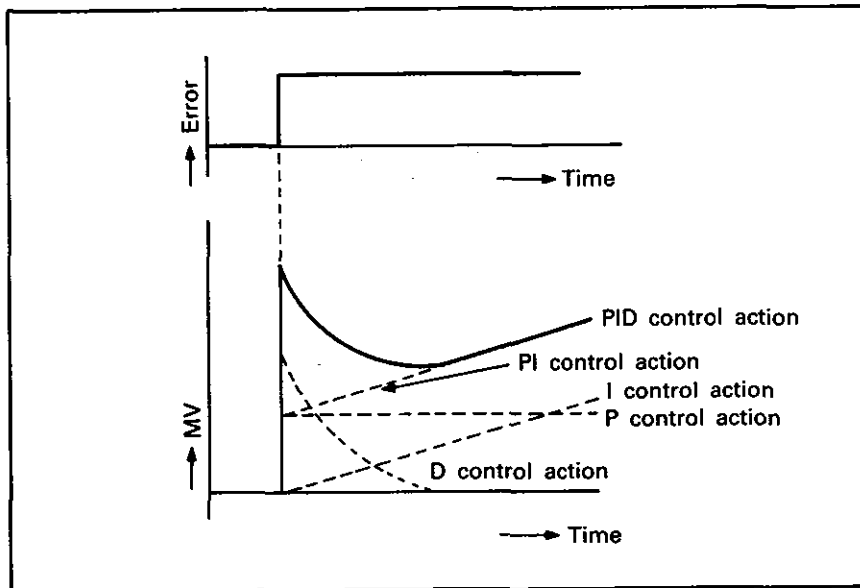

Fig. 1.8 PID Control Action Where Error Is Constant
- (1) Exercises control using the MV obtained by the P, I and D control actions.
- (2) Fig. 1.8 shows a PID control action where the error is constant.